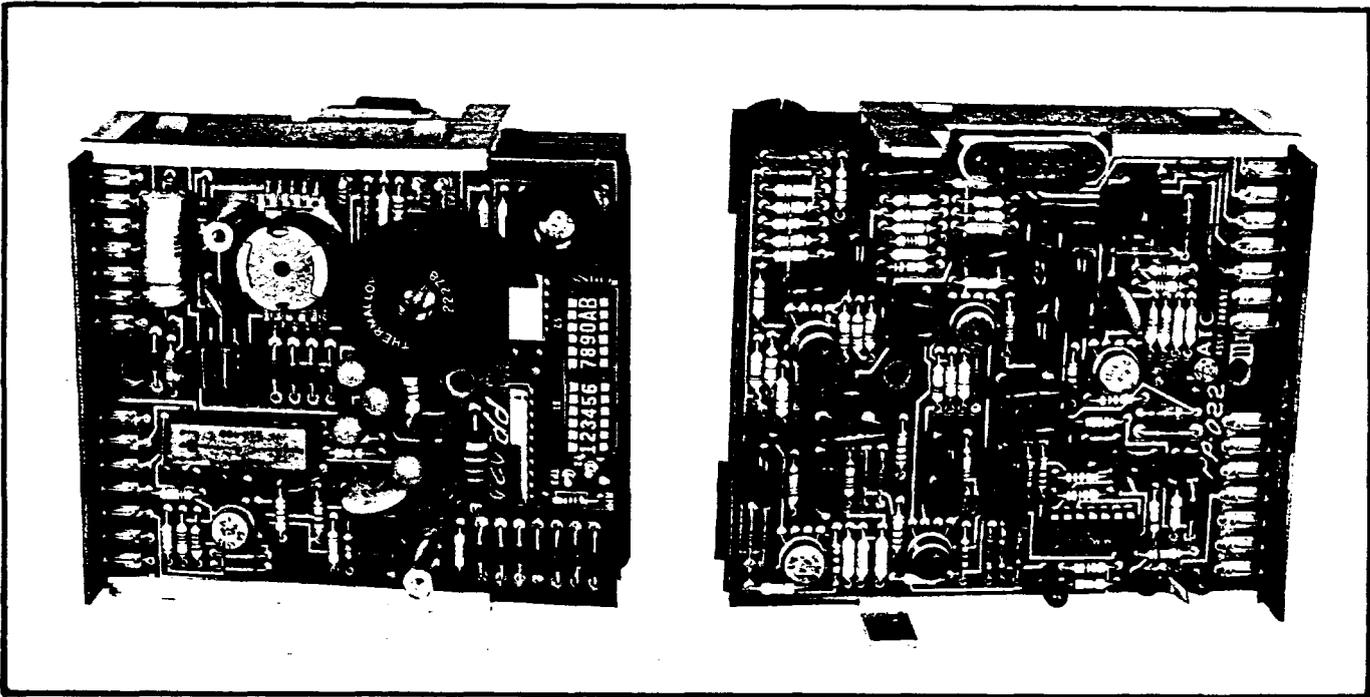

Figure 3. Converter Interior
6.02 The interior of the Converter (Fig. 3) consists of three printed circuit cards with mutual cross connections provided by an interconnect board.